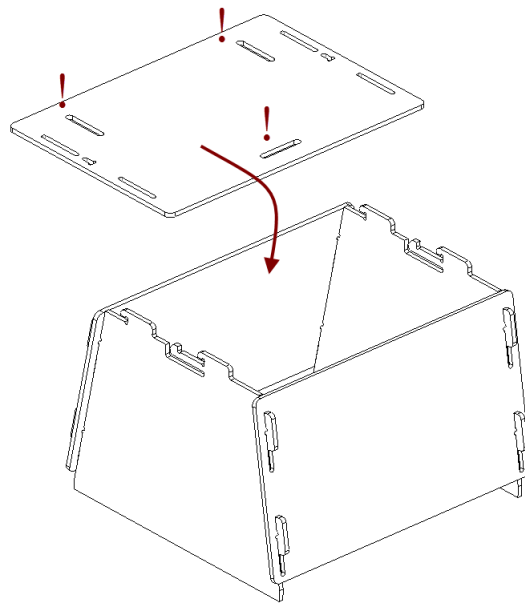

Figure 243: Mounting the cover.
3. Paying attention to orientation of the slots, install the cover using the upper hooks of the side walls (see Figure 243).